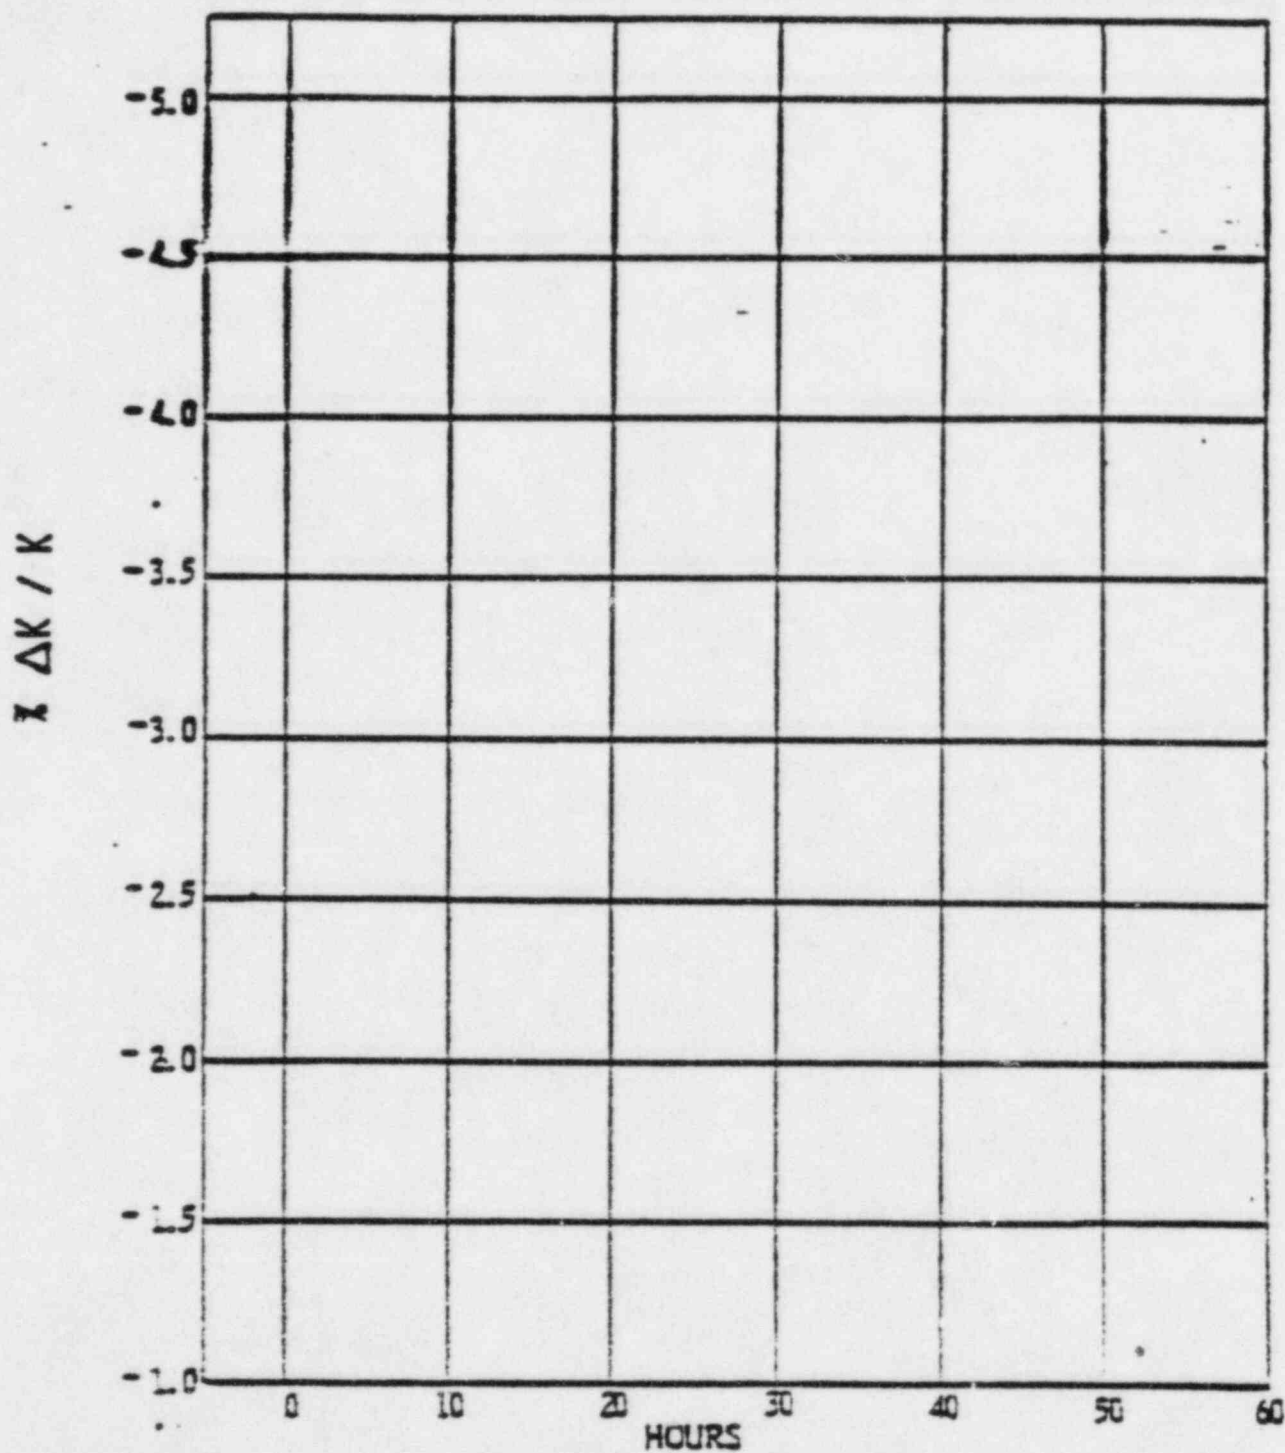

FIGURE 5.05 (QUESTION)
- d. Assuming that this maneuver takes 20 minutes, make a sketch on the provided graph (Figure 5.05) of the xenon worth as a function of time. Show time from the point in time of decreasing power and for the next 50 hours. (1.5)